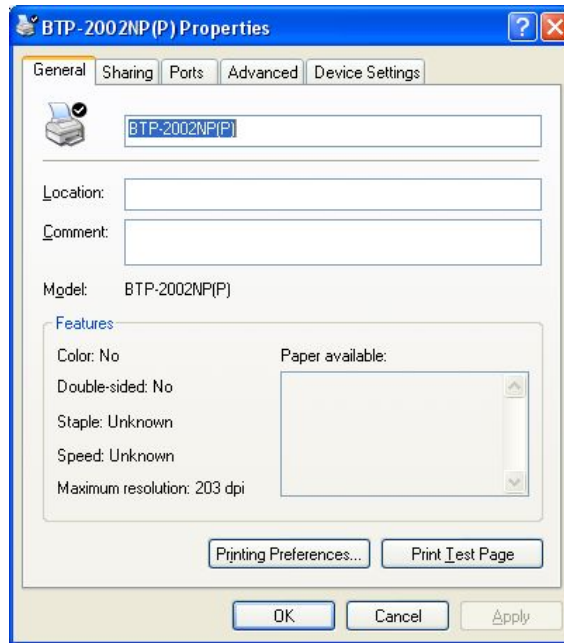

Figure 5.3.1 Printer property window
- 1) Right click the installed BTP-2002NP icon and open the property window (see Figure 5.3.1);